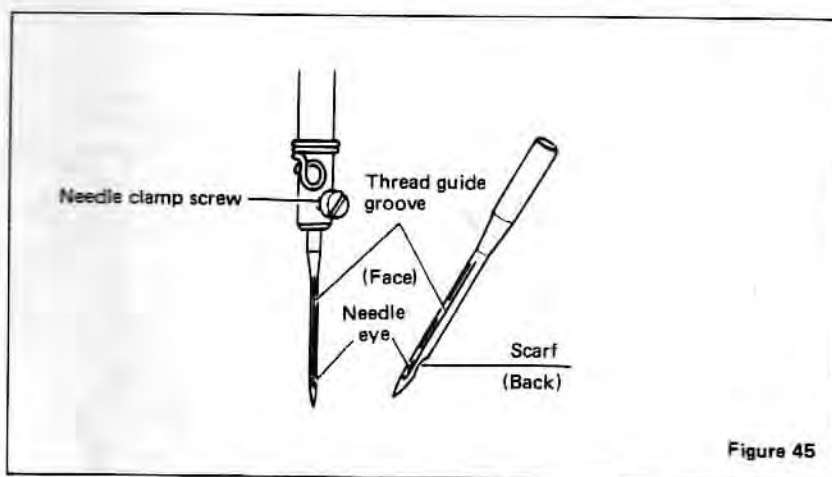

Figure 45
3. Put the point of the new needle in the hole of the needle plate, and the round end of the needle into the needle bar hole all the way to the top (Figure 45).